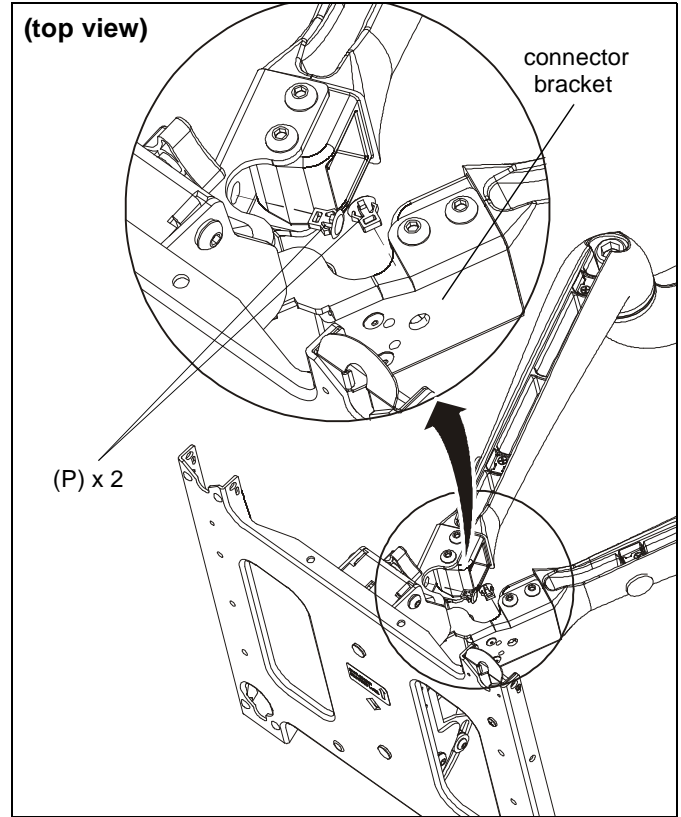

Figure 7
7. (Optional) Install two cable clips (P) into holes on connector bracket. (See Figure 7)